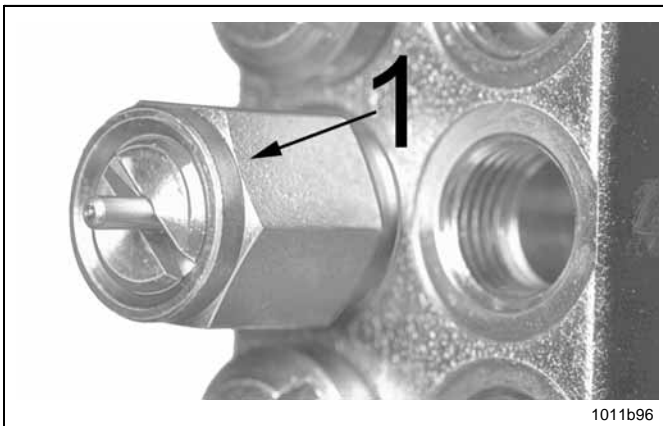

Fig. 23 Indicator pin installed on metering device
- The main metering device (B, Fig. 23) and the secondary metering devices are connected by a high-pressure hose G. This feature automatically causes the linkage of the progressive system connected downstream of the pump.